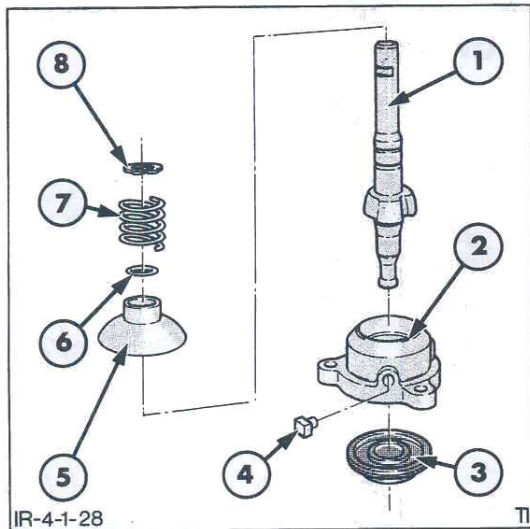

Figure 31
3. Remove the pin and rubber shield from the lever support, Figure 31.